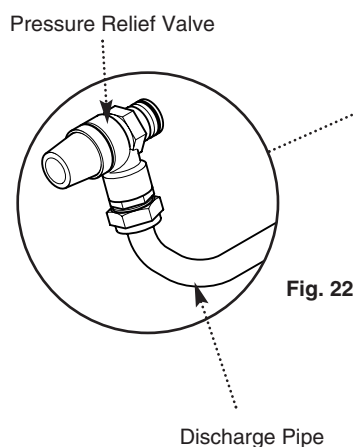

Fig. 22
8.5 Fitting the Pressure Relief Discharge Pipe (Fig. 22)